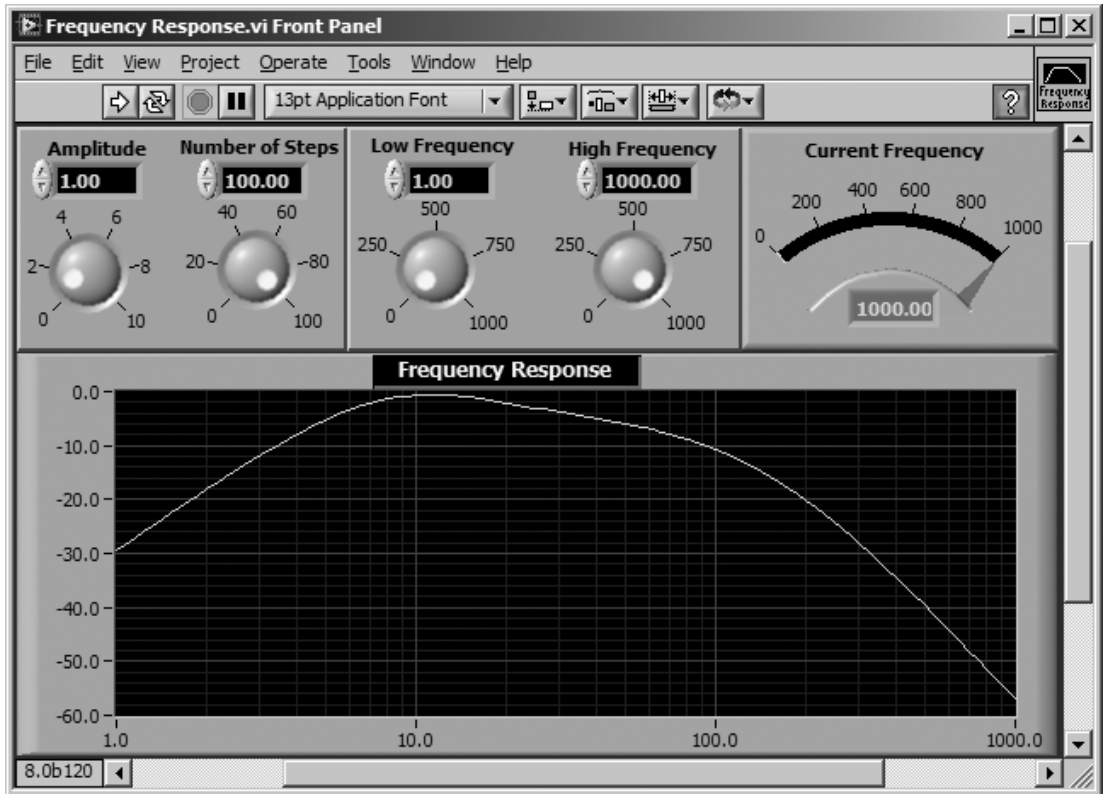

Figure 1.12
3. You will see the VI shown in Figure 1.12.